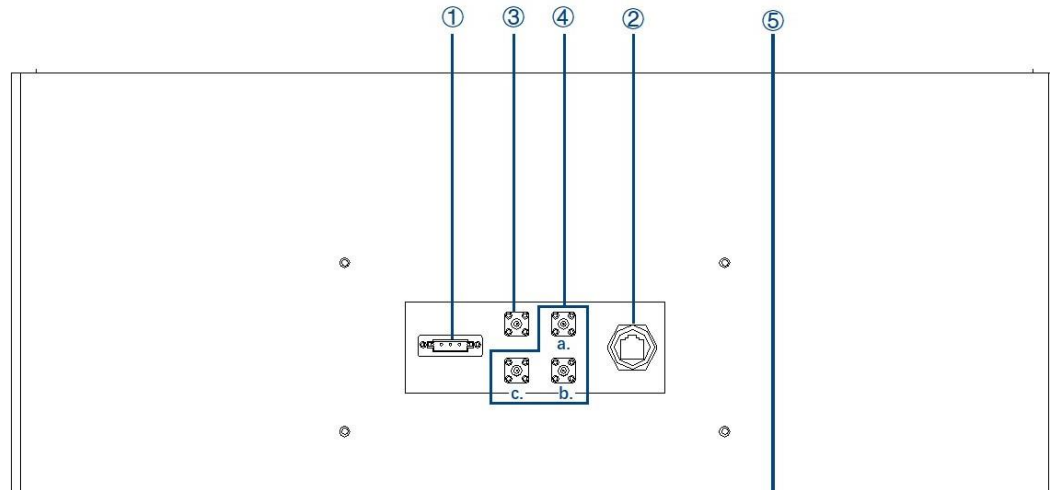

Figure 1-15 Rear panel of power supply
The ATI interface is located on the rear panel of power supply (Figure 1-15 ④).